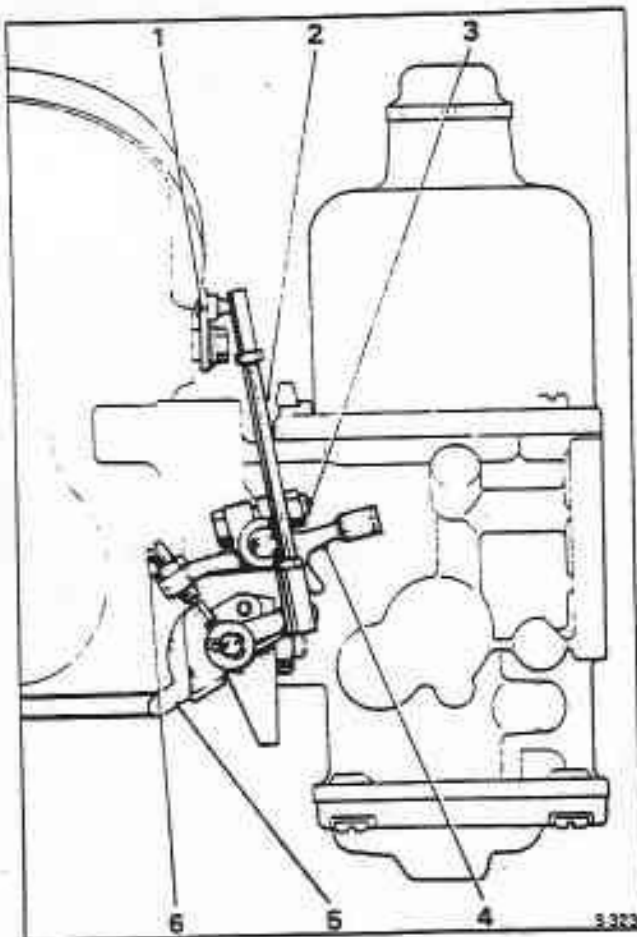

Fig. K5-19 Fast-idle mechanism
1. Assemble the mechanism onto 'A' bank carburettor as shown in figure K5-19.
2. Do not tighten the lever clamp nut and bolt (item 3).
3. Ensure that the adjusting screw (item 6) is in line with the fast-idle cam (item 5).
4. Insert the shank of a 2,54 mm (0,10 in) diameter drill between the top of the fast-idle cam and the boss carrying the fast-idle adjusting screw. Tighten the lever clamp bolt (item 3).
8. Fit the butterfly rod (item 2).
4. Open the throttle and close the choke strangler butterfly against the bi-metal tension using the control rod lever (see fig. K5-19, item 1), until the adjusting screw (see fig. K5-19, item 6) is resting on the tip of the fast-idle cam. At this point an extra load will be felt as the action of the extended fast-idle plunger ceases.